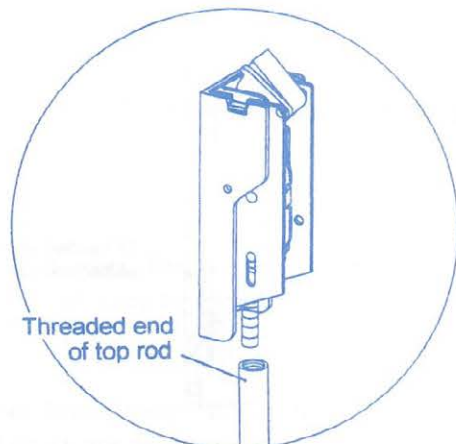

Figure 8
2. Screw the threaded end of top rod into top latch assembly completely. (See Fig. 8.)